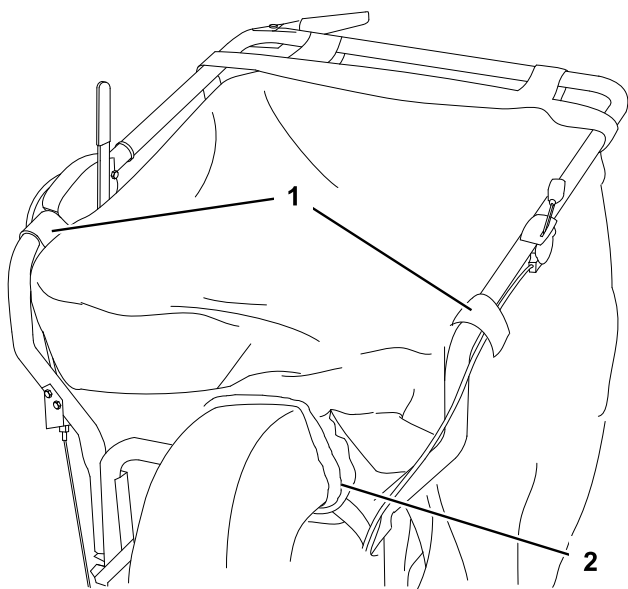

Figure 9
2. Position the bag onto the handle, hooking the grommets over the pins and the bag strap over the handle (Figure 9).
3. Slip the elasticized neck of the bag over the flanges on the chute (Figure 9).